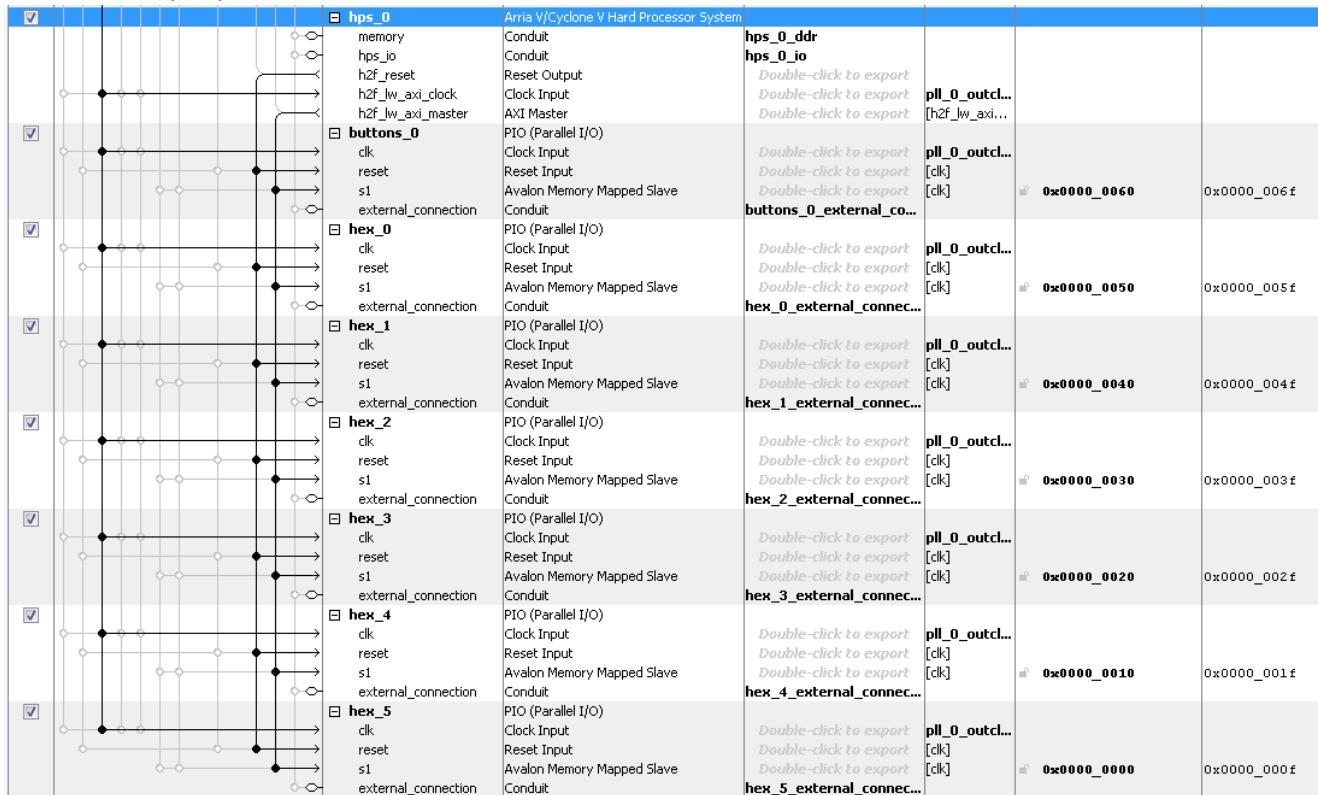

Figure 8-11. Adding Buttons and 7-segment Displays to the Lightweight HPS-to-FPGA Bridge
25. Connect the system as shown in Figure 8-11 below (we don't show the full system to make figures hold on one page). Notice that we use "hps\_0.h2f\_reset" as the reset signal for the components connected to the HPS. This is a design choice so we can separately reset FPGA-only peripherals, and FPGA peripherals connected to the HPS.